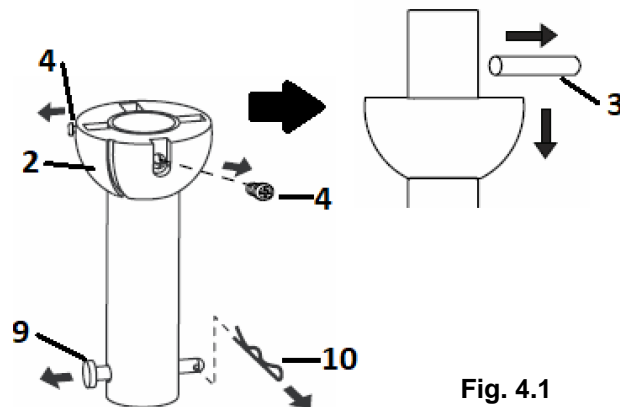

Fig. 4.1
1. Remove the ball joint (2) and dowel pin (3) by loosening the set screws (4) from the down rod (6). Remove the hitch pin (9) by removing the lock clip (10) (Fig. 4.1). **NOTE: Do not discard keep these parts, they are required to reassemble later.**